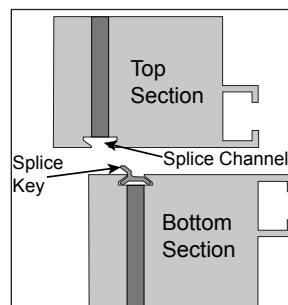
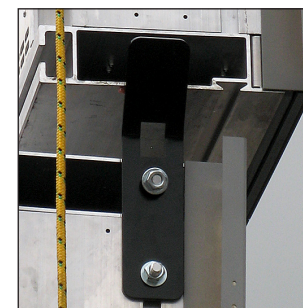

Figure 10: Installed Splice Key
Figure 11: Alignment Bracket
1. Ensure the splice key is in the splice channel and the alignment brackets are installed on the bottom display section. Refer to **Figure 10** and **Figure 11**.